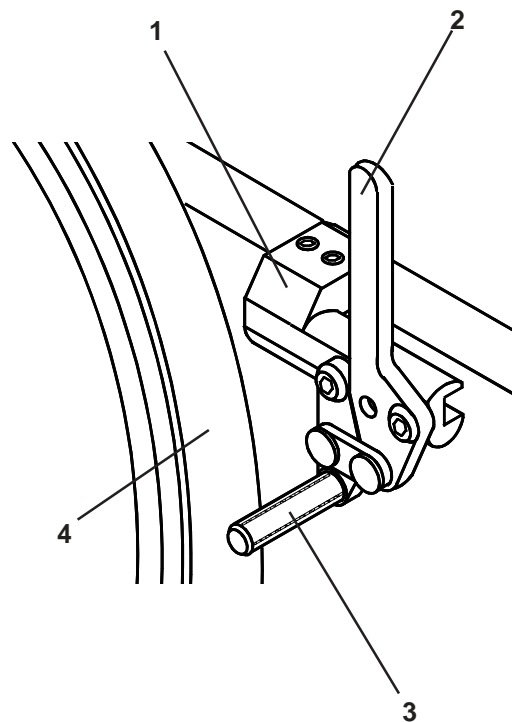

Fig. 18
High mount push-to-lock wheel locks are shown in Fig. 18. The wheel lock mounts on a clamping system (1) and is correctly set prior to leaving the factory. To apply the wheel lock simply push the operating lever (2) forwards until you feel it go over centre, and the grip bar (3) grips the tyre (4). The operating lever (2) can have a detachable extension which can be removed to create space for side transfers. When the wheel lock is applied remove the operating lever extension by pulling it off the brake. Refit when you are reseated. It is attached by a cord to the wheel lock and cannot fall off.